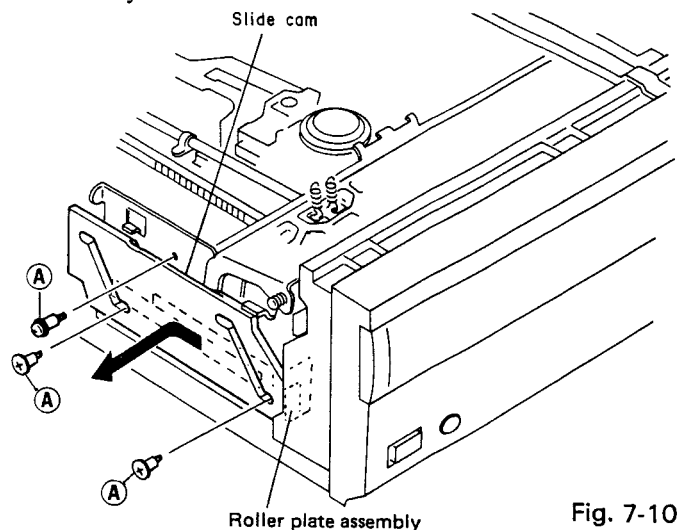

Fig. 7-10
**7.9 REMOVING THE SLIDE CAM AND ROLLER PLATE ASSEMBLY (Fig. 7-10)**
- ① Position three switch levers so that they are nearly parallel (approx. 2mm), as shown in Fig. 7-10.